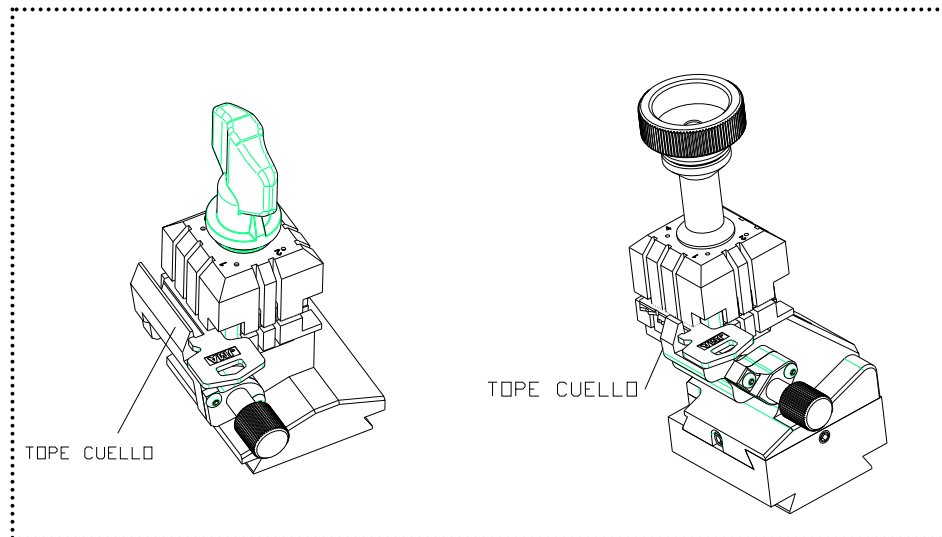

Fig.14
1. Collar stop (C): This is the most common type. The key is stopped by mechanically blocking the clamp (Fig.14)